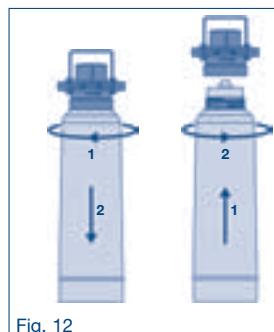

Fig. 12
2. Unscrew the filter cartridge out of the filter head in a clockwise motion (see Fig. 12).
4. Install new filter cartridge as described in Section 6.8 (see Fig. 12).